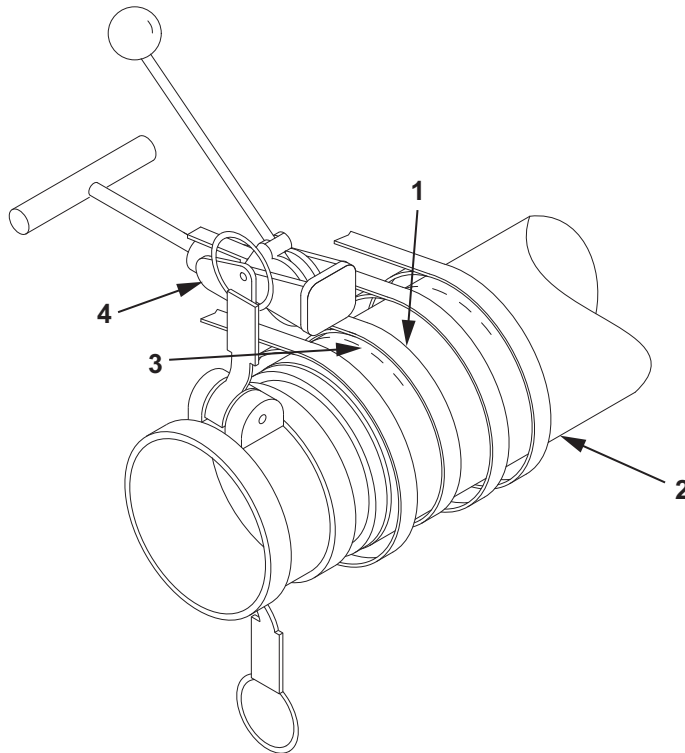

Figure 6. 4 X 10 Ft Suction Hose Assembly Repair.
13. Position the first clamp (Figure 6, Item 1) on the hose assembly (Figure 6, Item 2) until it is aligned with the first mark (Figure 6, Item 3) previously made on the hose assembly (Figure 6, Item 2).
14. Using clamping tool (Figure 6, Item 4) from hose repair kit, tighten the clamp (Figure 6, Item 1) until almost flush with the hose assembly (Figure 6, Item 2) surface.